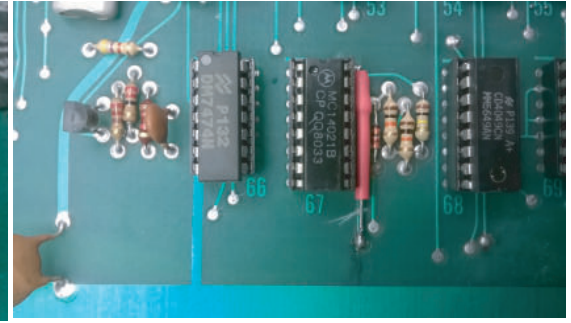

Figure 3
2. Solder a 1-ohm resistor from U67 to the through hole solder point below the trace cut as shown in figure 3.